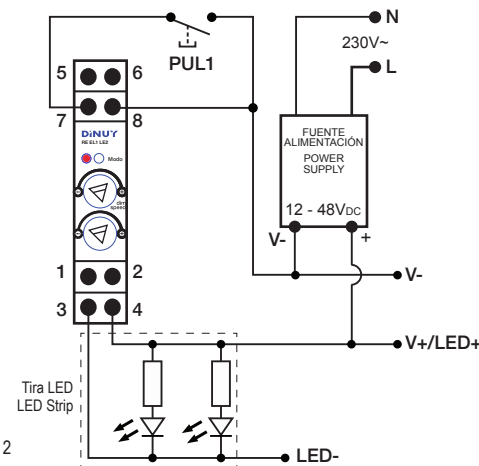
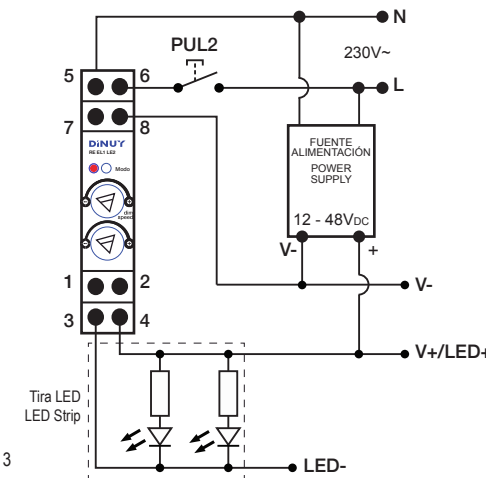

Fig. 2
Fig. 3
- Funcionamiento con Pulsador Cableado (Fig. 2 y Fig. 3):**
- Operation with wired Pushbutton (Fig. 2 & Fig. 3):**
- Fig. 2: Pushbutton referred to Ground.
- Fig. 3: Pushbutton referred to 230V~.
- To select the switch-on mode, press briefly the key (C) with a fine point:
- To become this mode operative, make sure that the rotary knob (B) is placed at minimum.